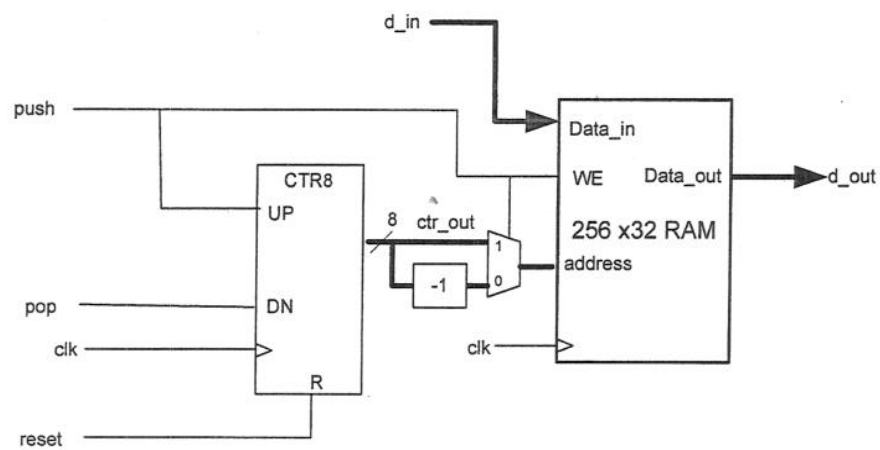

Figure 6.3
- b) Figure 6.3 shows a simplified block diagram of the LIFO circuit. Assuming that the counter was originally reset to 0, draw a timing diagram showing the operation of the LIFO for the sequence of operations: push, push, push, nop, pop, push, pop, push, push, push, pop, pop. Your diagram should include the signals: *clk*, *push*, *pop*, *ctr_out*, and the address read/written to the block RAM.
- c) Modify the circuit shown in Figure 6.3 to include the LIFO full and empty detection.